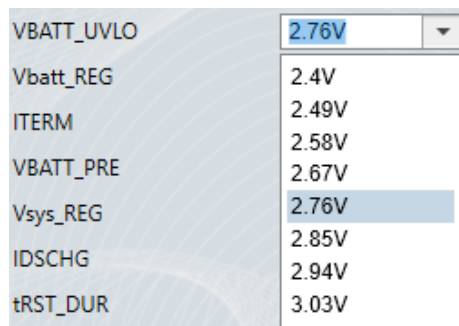

Figure 9: BATT_UVLO Threshold Setting
5. Figure 9 shows the BATT_UVLO threshold setting. Set the BATT_UVLO threshold to 2.76V (the range is 2.4V to 3.03V).